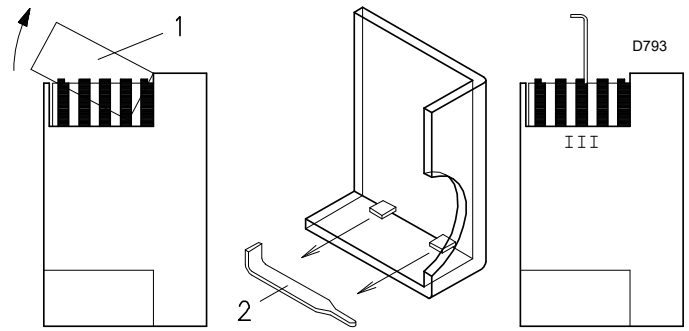

Fig. 30
If it is necessary to adjust cam III, remove the cover 1) (inserted with a trigger catch, as indicated in Fig. 30), extract the special key 2) from inside, and insert it in the notch of cam III.